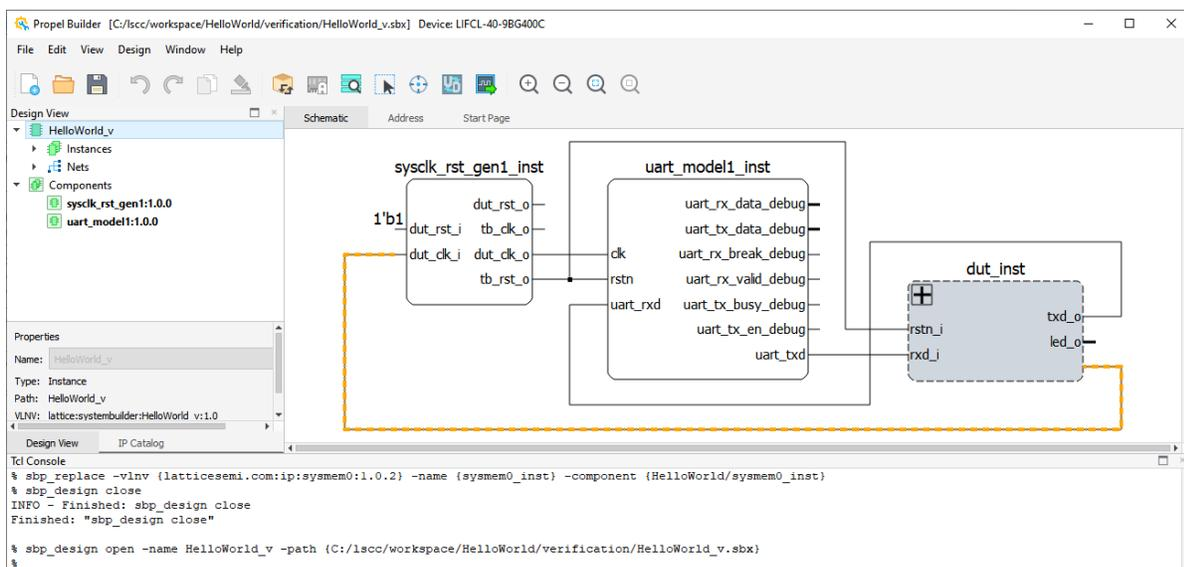

Figure 2.67. Switching to Project Verification
3. Click **Yes** in the Propel Builder dialog box. The Propel Builder GUI switches to verify the project (Figure 2.67).